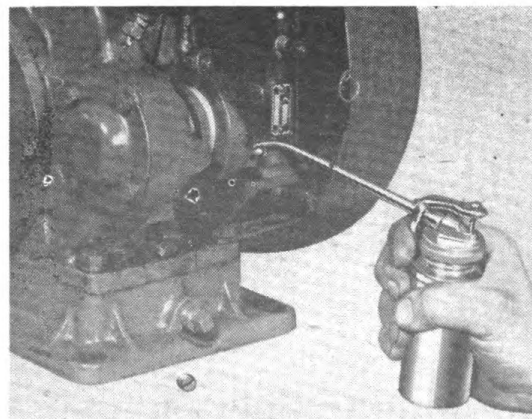

Figure 29
c. Once every 256 hours of operation, remove plug and fill magneto oiler to overflowing with S.A.E. 10 oil (See Figure 29).